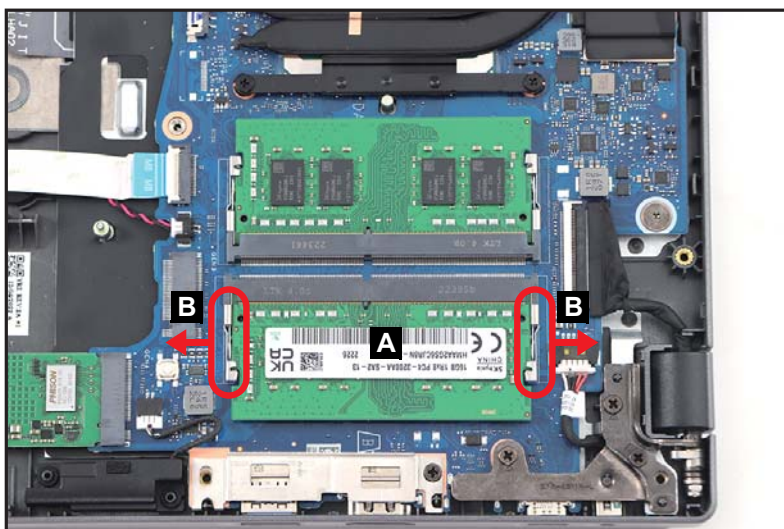

Figure 1-16. DIMM Module Removal
1. Find the DIMM module (A) in the system. Then push the DIMM module clips (B) outwards (Figure 1-16).